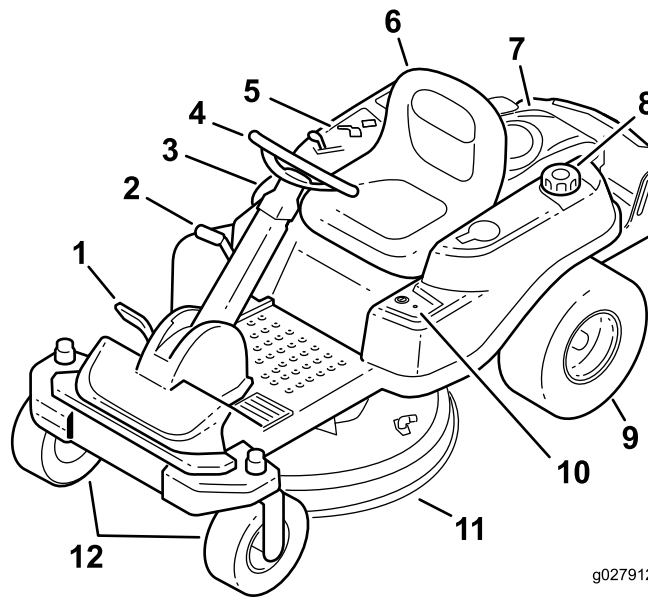
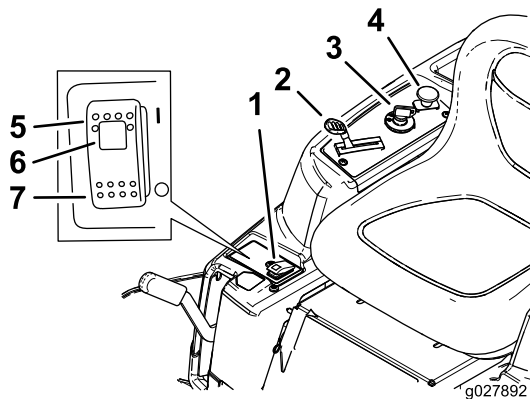
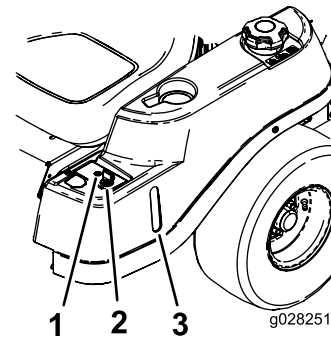

Figure 4
Figure 5
Figure 6
Become familiar with all controls in Figure 4 , Figure 5 , and Figure 6 before you start the engine and operate the machine.
The ignition switch has 3 positions—Off, Run and Start. The key will turn to Start and move back to Run upon release. Turning the key to the Off position will stop the engine; however, always remove the key when leaving the machine to prevent someone from accidentally starting the engine (Figure 5).
variable setting from Slow to Fast. Engage the choke by moving the lever past the Fast setting until it stops (Figure 5).
The blade-control switch, (PTO), engages and disengages power to the mower blades (Figure 5).
The fuel window located on the left-hand side of the machine, can be used to verify the presence of gasoline in the tank (Figure 6).
This switch allows you to mow in reverse when it is activated. To activate it, turn the switch to on and release it after the PTO is engaged. To deactivate it, disengage the power take-off (PTO) (Figure 6).
The Operating-in-Reverse warning light will illuminate whenever the KeyChoice key is used to deactivate the operating-in-reverse interlock. It is a reminder that the interlock system is deactivated. The light goes out whenever the PTO is disengaged or the engine is shut off. When the light is on, look behind and use extra caution when backing (Figure 6).
- Pressing the SmartPark™ switch to the On position (Figure 5).